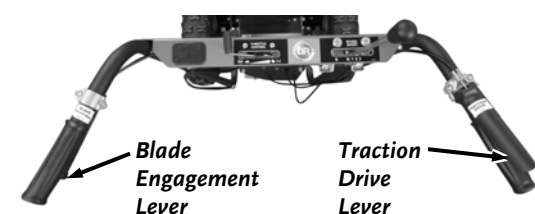

Figure 15
**Note:** Always release the Traction Drive Lever when shifting gears (**Figure 15**).
2. Gently squeeze the Traction Drive Lever to engage a gear (**Figure 15**).